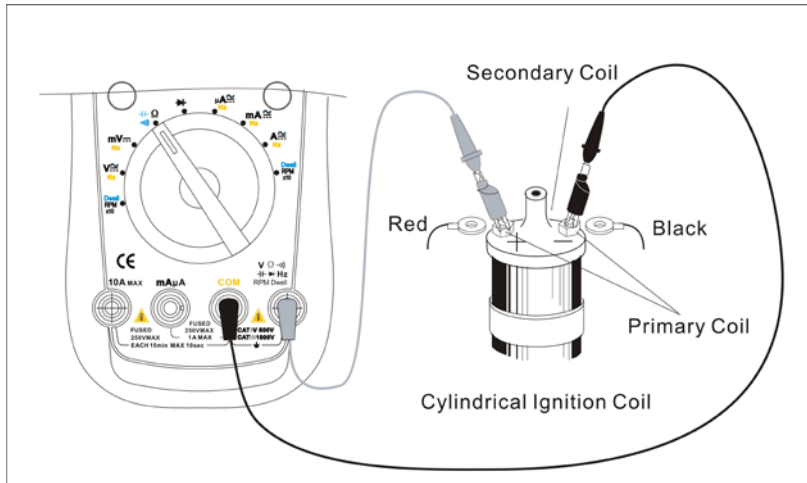

Figure 16
- (1) Before the operation, cool the engine and cut off the ignition coil.
- (2) Set the rotary switch to the  $\Omega$ . Insert the red test lead into the  $\Omega$  terminal and the black one into the **COM** terminal. Test the primary coil of the ignition coil.
- (3) Short circuit the red and black test lead probes. Their short circuit resistance should be less than  $0.5 \Omega$ . If it is more, check the test lead to see if it is loose or damaged. If it is damaged, replace it with a new one.
- (4) Connect the red test lead probe to the primary “+” pole of the ignition coil and the black one to the primary “-” pole of the coil. (see figure 16.) See the detailed positions in various kinds of automotive manuals.